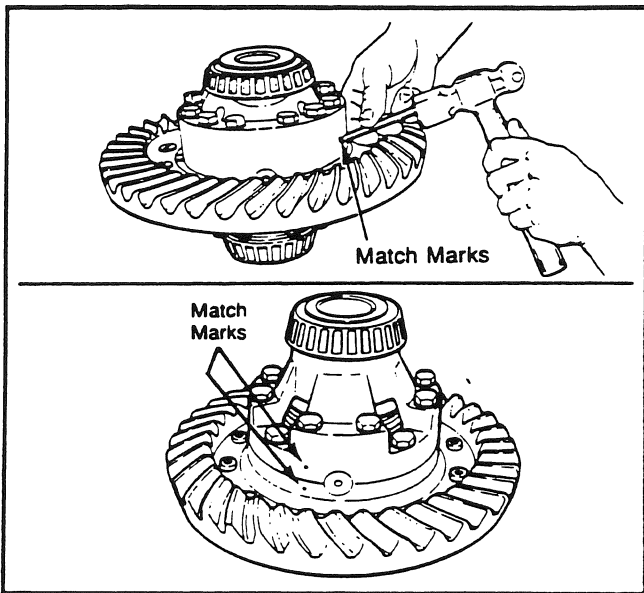

Fig. 14
1. If the matching marks on the differential assembly case halves are not visible, mark each case half using a hammer and center punch (see Fig. 14). The marks show the correct positioning of the plain half and flange half during the assembly procedure. Remove the bolts and washers securing the case halves together.